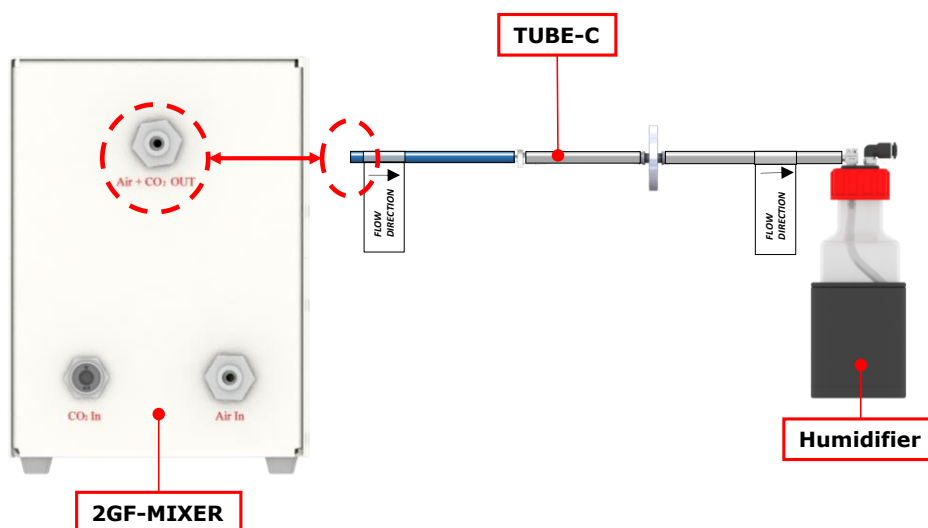

Figure 18. UNO-T-H-CO₂ – TUBE-C connection.
4. Connect the blue rigid end of TUBE-C to the “Air + CO₂ OUT” push to fit connector of on the rear panel of 2GF-MIXER. Connect the silicon end of TUBE-C to the Gas Inlet gas connector of the Humidifier (see Figure 18). TUBE-C is equipped with a PTFE filter in the middle. Make sure to install the TUBE-C in the direction of the gas flow indicated by the labels on both ends of TUBE-C and on both sides of the PTFE filter.